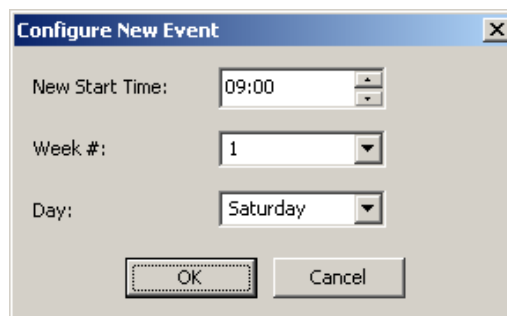

Figure 3.7 - Adding a Production Day
If you select the option to add a production day, the Configure New Event dialog appears, as shown in Figure 3.7. This option lets you to add a production day if the shift model isn't a seven-day workweek. You can specify the start time, week number, and day of the week that you wish to insert into the template. If production day occurs every week, your Week # should remain as 1.
- **Create Copy:** creates a copy of the selected event. When you select this option, you will see the **Configure New Event** dialog as shown in Figure 3.7. You can use this dialog to specify the time, week number, and day where the new event should occur.